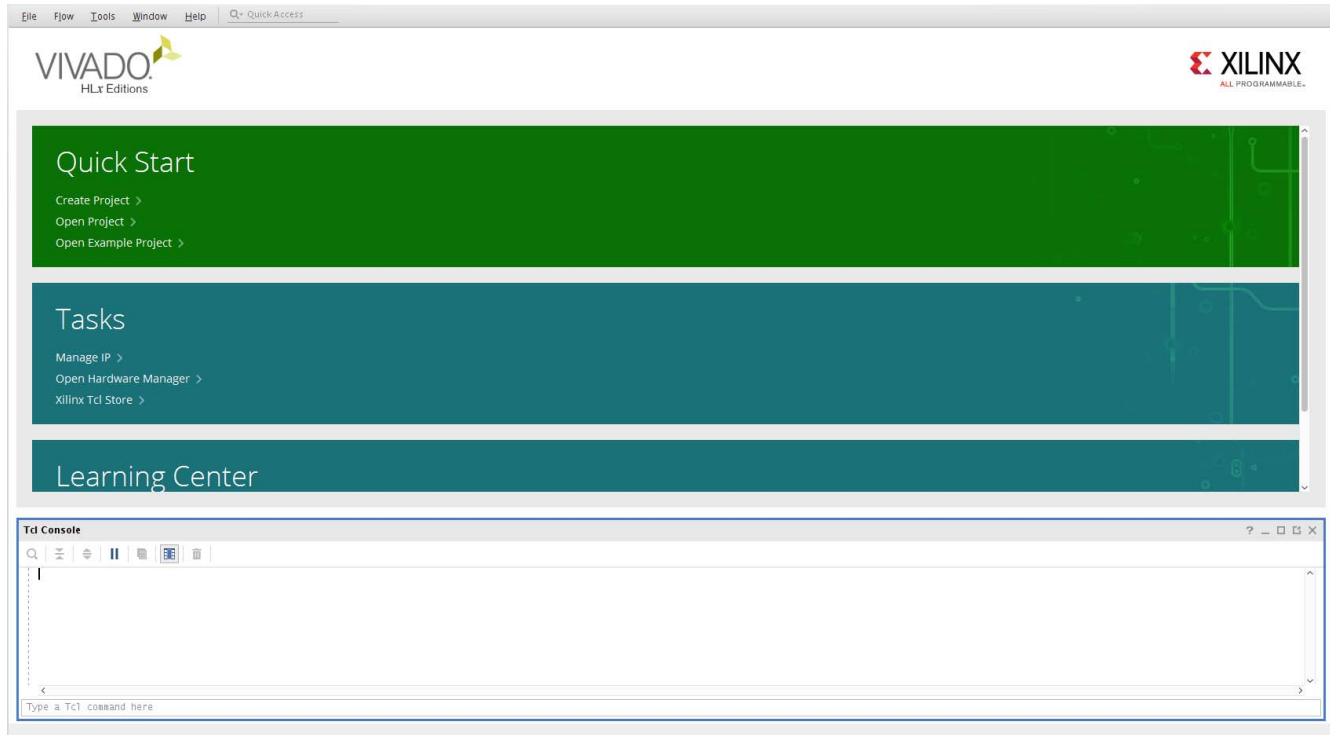

Figure 5-1: Vivado Design Suite Quick Start
1. Open the Vivado Design Suite and click **Create Project** (Figure 5-1).